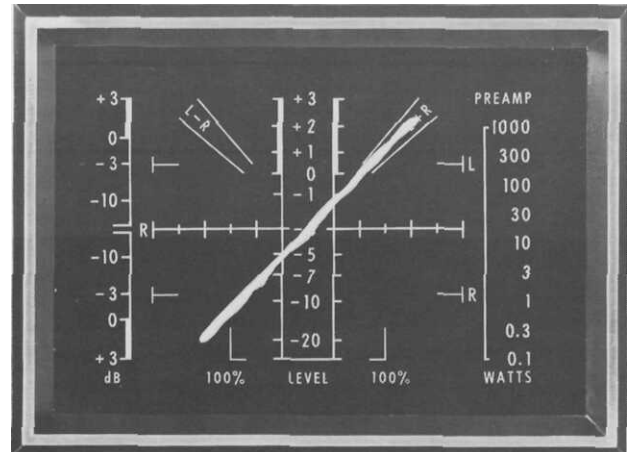
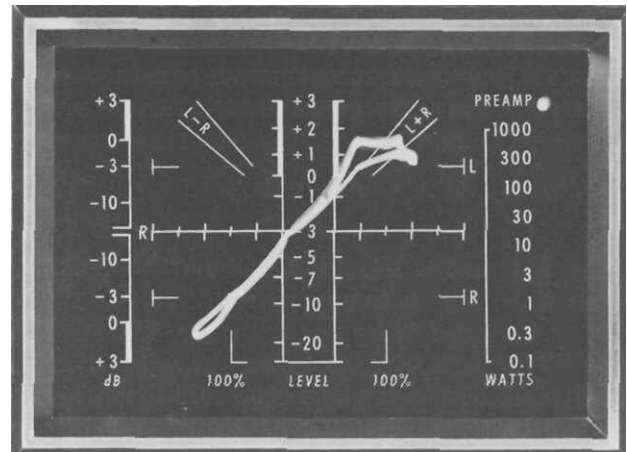

FIG. 29 GOOD TRACKING
FIG. 30 IMPROPER TRACKING
3. Adjust the GAIN control to obtain approximately a 2-inch display. Figure 29 shows good compliance and tracking, while Figure 30 shows distortion due to improper tracking.